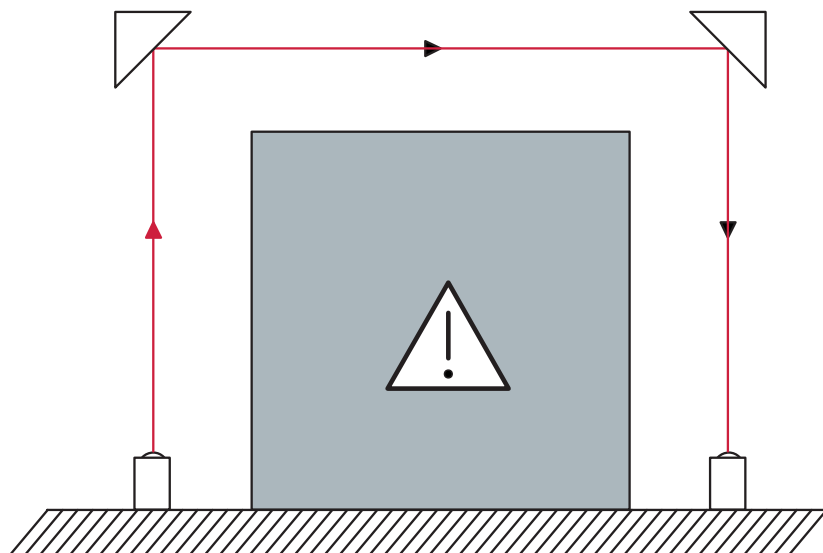

Figure 6.5: Arrangement of the deflecting mirrors
- Arrange the deflecting mirror so that the optical axis is aligned with the center of the mirror see figure 6.5.